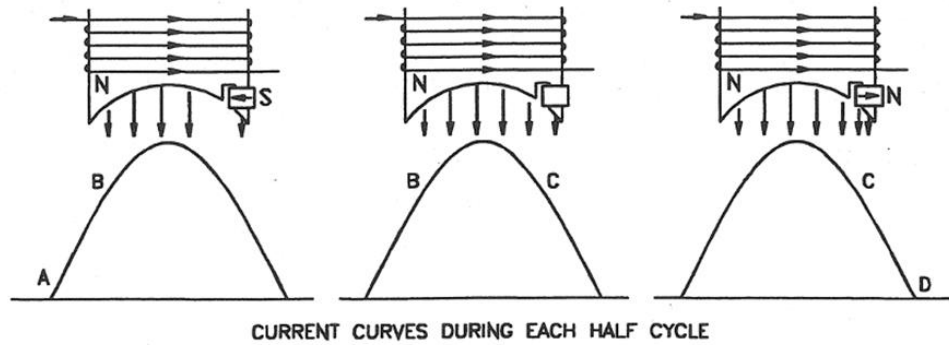

Figure 2 - Shift of magnetic flux during each half cycle.
3. A shaded pole motor develops torque because the arrangement of the field system results in a gradual shift of the magnetic axis across each pole face during each half cycle of the a.c. supply. The shift of the magnetic axis occurs as a result of the interaction between the magnetic flux created by the main field pole(s), and the flux produced by a current induced in the shading ring by electromagnetic induction. The general principle is illustrated in Figure 2.
4. When the current in the main field coil is increasing at the start of the half cycle (from A to B in Figure 2), a current is induced in the shading ring which opposes the force which is creating it (Lenz's Law). The direction of the current in the shading ring is such that it produces a magnetic flux which opposes the main flux, thereby reducing the total flux on the right hand side of the field pole.